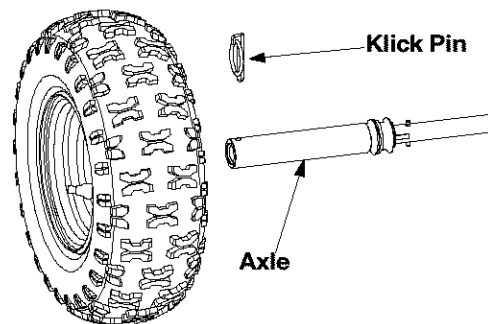

Figure 14
- Oil or spray lubricant into bearings at wheels at least once a season. Pull klik pin, remove wheels, clean and coat axles with a multipurpose automotive grease. See Figure 14.